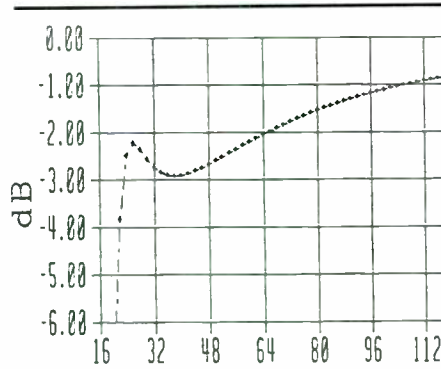

FIGURE 1: The TA305 compound driver response curve.
G.R. Koonce's articles inspired me to attempt an unconventional vented box. Through dumb luck, I happened to have purchased four TA305s (without even knowing what I had, before the Swan IV), and decided to try them in a constant pressure system. The attached results in *Table 1* and *Fig. 1* are derived from a spreadsheet which I wrote to design the box. My final box was 6,356 in.³ (to compensate for the volume of the Isobarik cylinder), giving me internal dimensions of 16" × 30" × 13.24".
The ARIA 5 crossover has been greatly redesigned through careful testing and listening. The crossover frequency has been moved up from 2.5 to 3kHz. The low-pass network has also been simplified to reduce mid/bass driver phase shift, thereby improving driver integration. In my letter to Mr. Eckle (SB 4/92, p. 68), Fig. 1 clearly shows the smoothness of the transition between drivers through the crossover region.